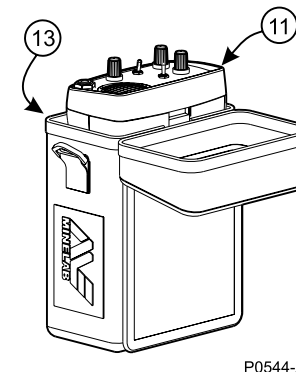

Figure 5 - Control box in hipmount bag
- Check that there are charged batteries in the control box (11).
- Put the control box into the hipmount bag (13) as shown in Fig 5